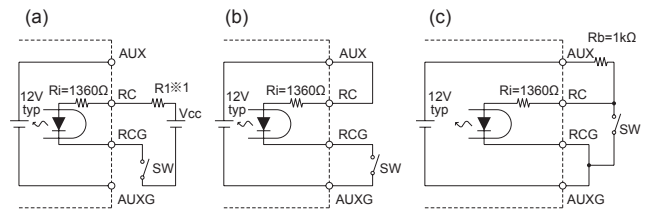

Fig.1.3 Examples of connecting method for remote ON/OFF
■ The remote ON/OFF function can be operated by sending signals to CN3. Please see Table 1.2 and Table 1.3 for specifications and Fig.1.3 for connecting examples.
① The output stops when a current flows to RC.
② The current flown to RC is a 15mA max.
③ If the output voltage is turned off through the remote ON/OFF circuit, the WRN signals and the PG signals keep "Low".
④ Description in this section is based on the assumption that you will use one unit alone. If you are planning to use the units in parallel operation or use multiple units for a single system, please check necessary voltage and current values.
Table 1.3 Specifications of remote ON/OFF (Case of Fig.1.3)